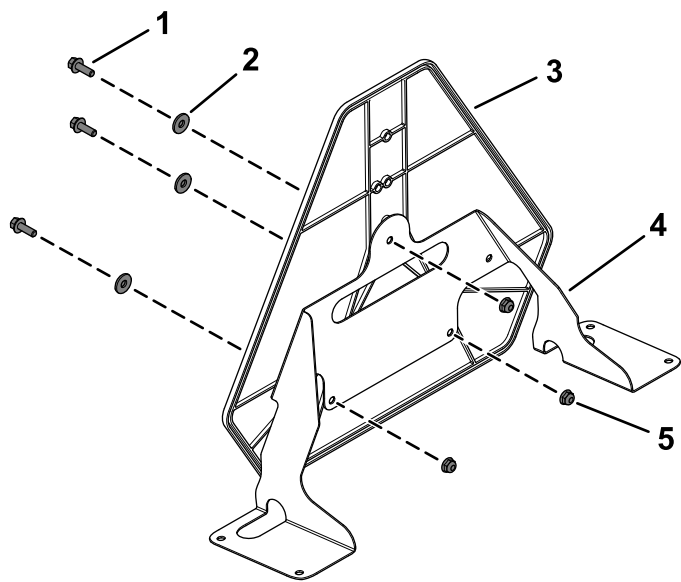

**Figure 21**
- Using the marker mount as the template, drill 3 holes (5/16 inch) into the slow-moving vehicle sign (Figure 21).